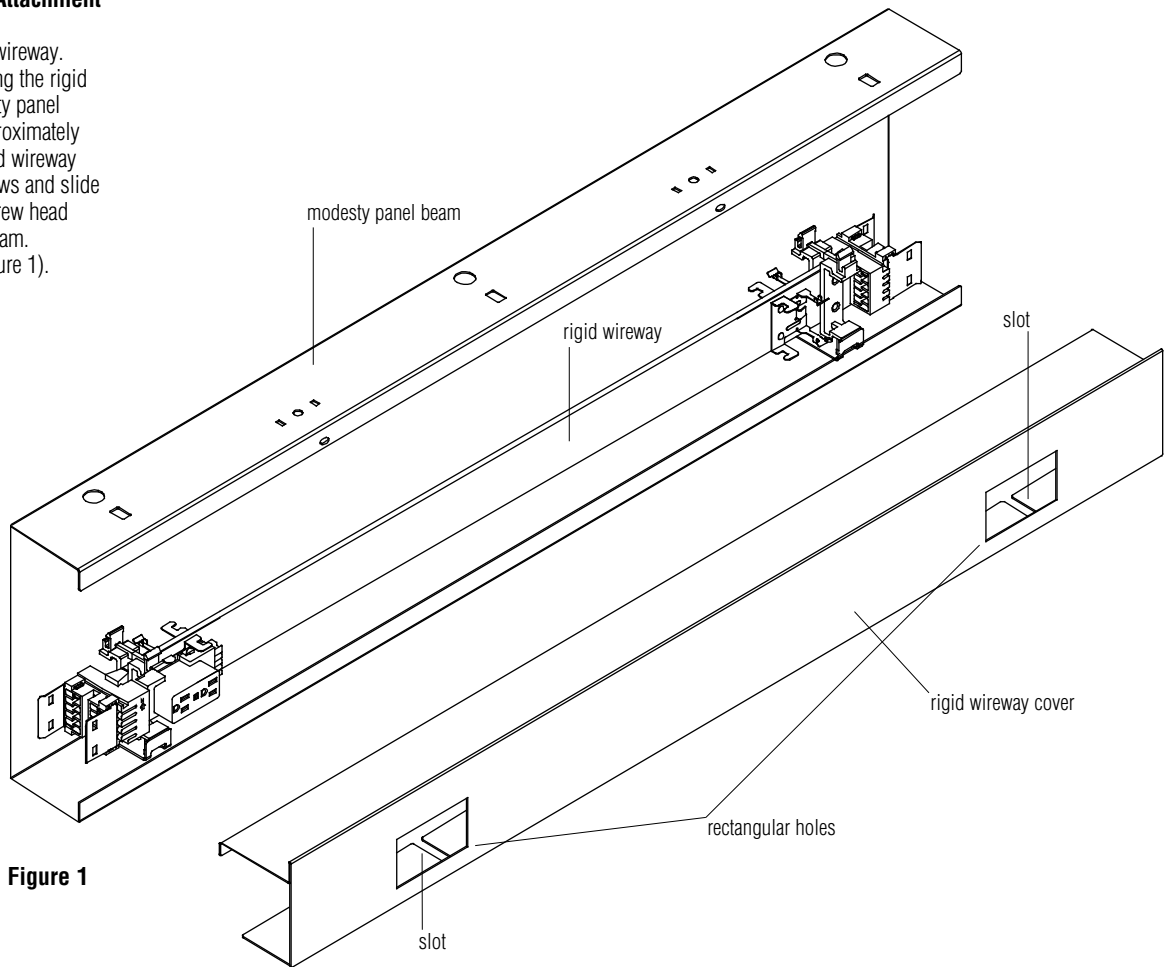

Figure 1
1. Complete all electrical connections on rigid wireway. Locate screws attaching the rigid wireway to the modesty panel beam and loosen approximately $\frac{1}{8}$ ". Align slots on rigid wireway cover flange with screws and slide into place between screw head and modesty panel beam. Retighten screws (Figure 1).